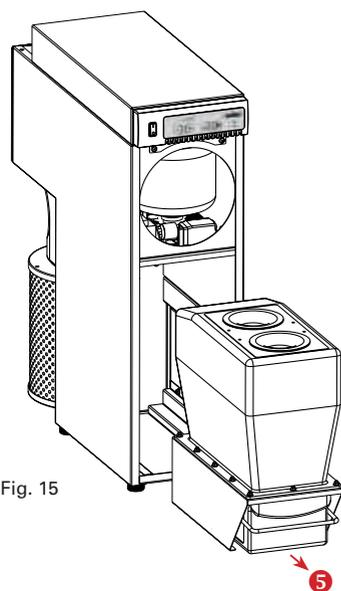

Fig. 15
- 5 Pull out the complete filter unit (Fig.15)
- Pull out the filter unit as shown in section 3.1 Fig.15 and replace it with the replacement part.